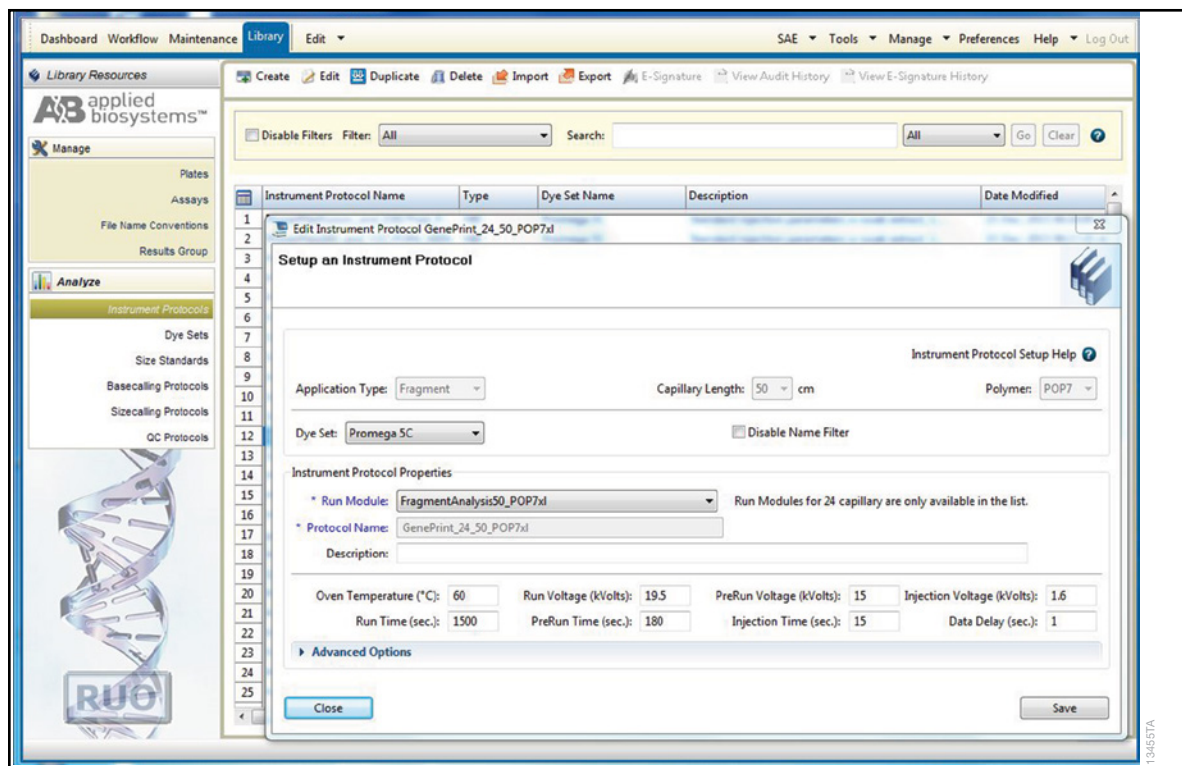

Figure 3. The ‘Setup an Instrument Protocol’ window.
- a. Navigate to the Library, select **Instrument Protocols** and choose **Fragment** as the Application Type (Figure 3).